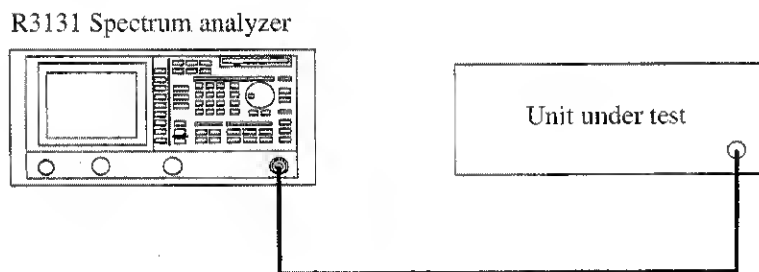

Figure 2-63 Setup for Measuring the Adjacent Channel Leakage Power
1. Connect the unit under test as shown in Figure 2-63.